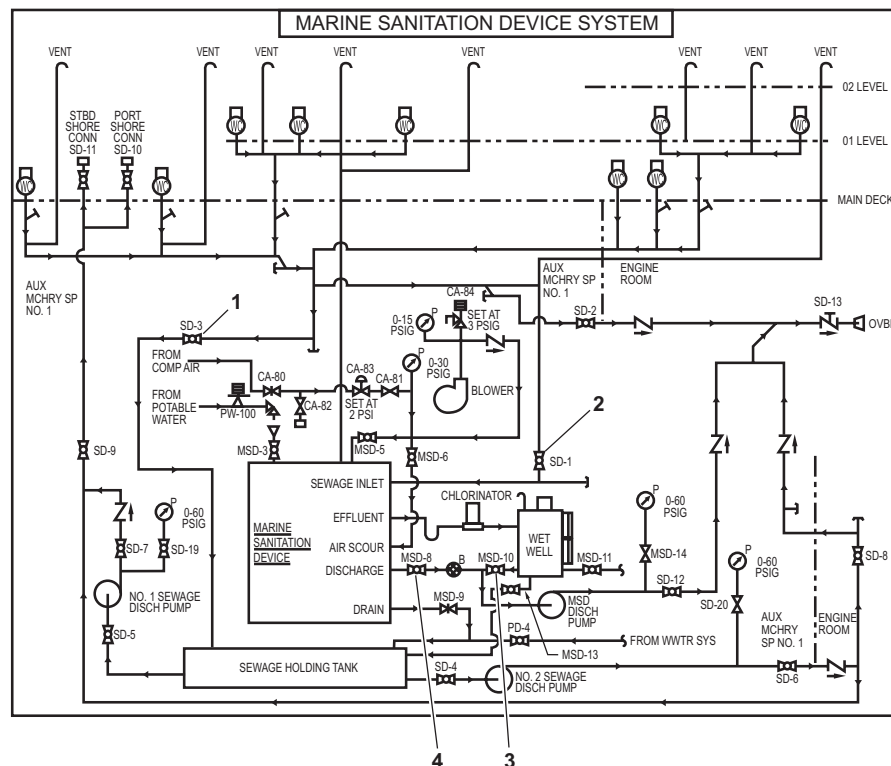

Figure 1. MSD Piping and Valve Schematic
Strainer, Simplex (Item 1, Figure 1, WP 0037 00)
1. OPEN valve SD-3 SEWAGE DRAIN TO HOLDING TANK (figure 1, item 1).
2. CLOSE valve SD-1 SEWAGE INLET TO MSD (figure 1, item 2).
3. CLOSE valve MSD-10 WET WELL DISCHARGE (figure 1, item 3).
4. Verify that valve MSD-8 MEDIA TANK PUMP-OUT DR (figure 1, item 4) is CLOSED.